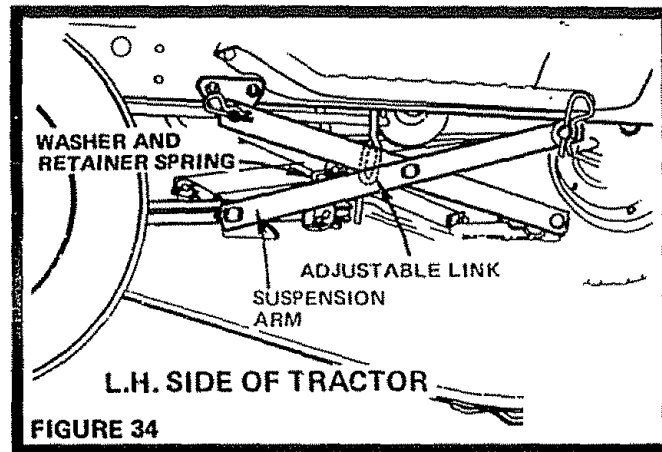

FIGURE 34
3. If adjustment is required, remove Retainer Spring and Washer (Fig. 34) on L.H. side Center Pivot Pin of Suspension Arms leaving Lift Link free.